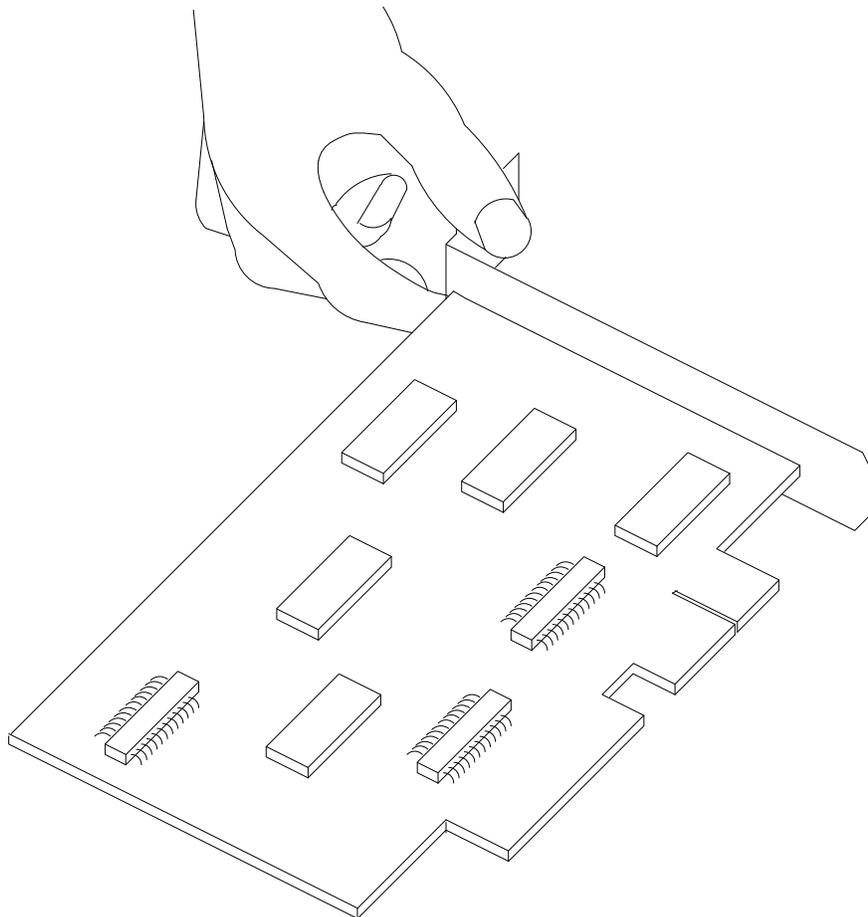
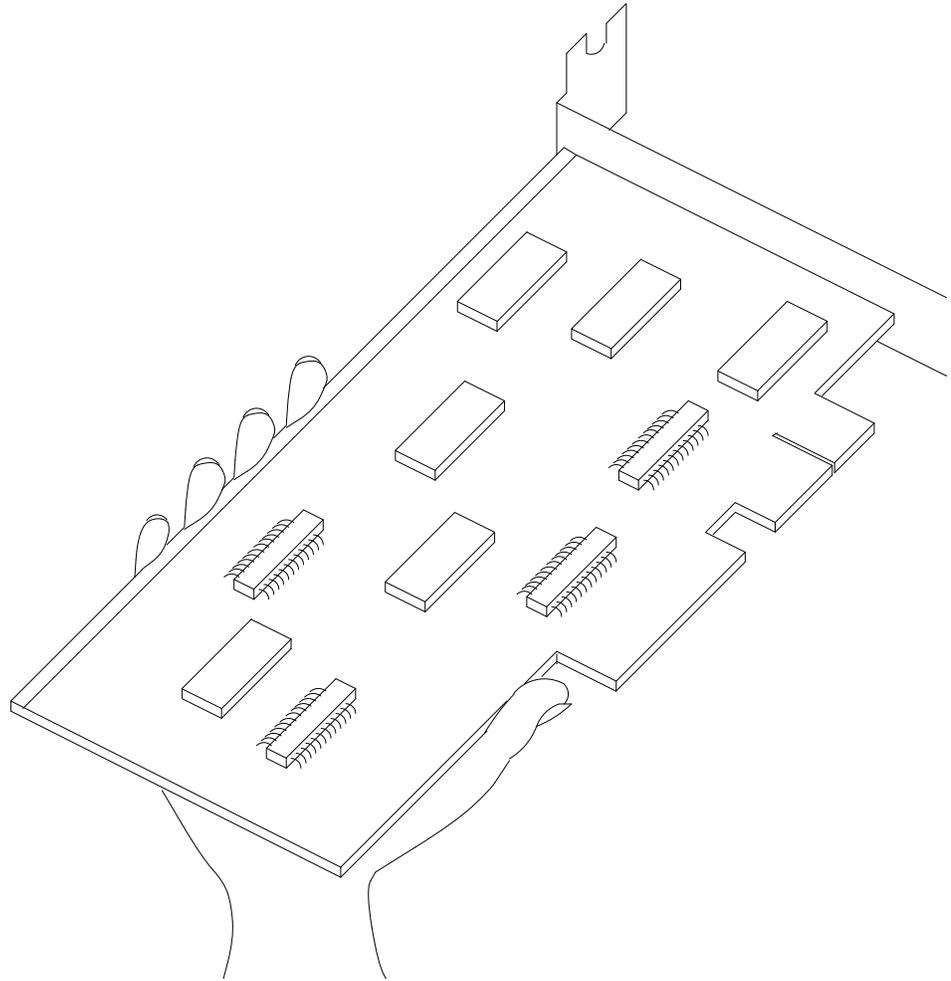

Figure 2-1. How to Hold a Short Circuit Card
Figure 2-2. How to Hold a Large Circuit Card
- Handle a circuit card by the faceplate or side edges only. Do *not* touch components, leads, or connector areas (gold finger pins). See Figure 2-1 and Figure 2-2 for examples of how to hold small and large circuit cards, respectively.